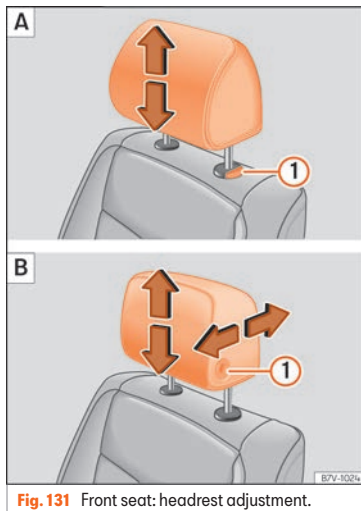
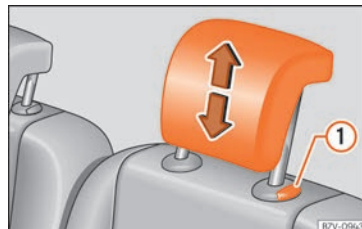

**Fig. 131** Front seat: headrest adjustment.
**Fig. 132** Adjust the head restraints in the second or third row of seats
- Move the headrest up or down in the direction of the corresponding arrow. Regarding the rear headrest, to both raise and lower, press the button » Fig. 131 1; for the rear headrests it is only necessary to press the button » Fig. 132 1 to lower them » Δ in Introduction on page 133.
- Move the headrest forward or back in the direction of the corresponding arrow while pressing the button » Fig. 131 1 B.